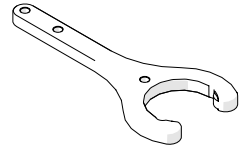

Fig. 43 - Red nut wrench
- ▶ The included red nut wrench (Fig. 43) loosens the Probe Holder frame nuts.